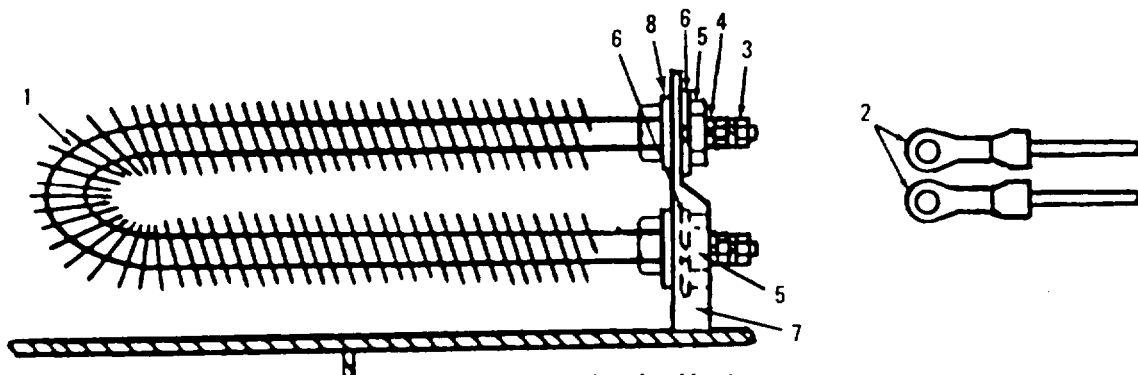

Figure 4-16. Air Intake Heater
a. Inspection/Test. (Refer to Figure 4-16).
- (1) Inspect the air Intake heater (1) for damage. Replace if damaged.
- (2) With the electrical source disconnected, test the air intake heater for continuity. Replace if damaged.